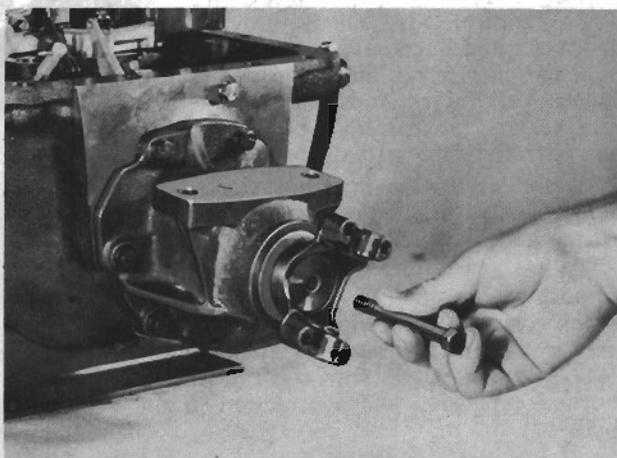
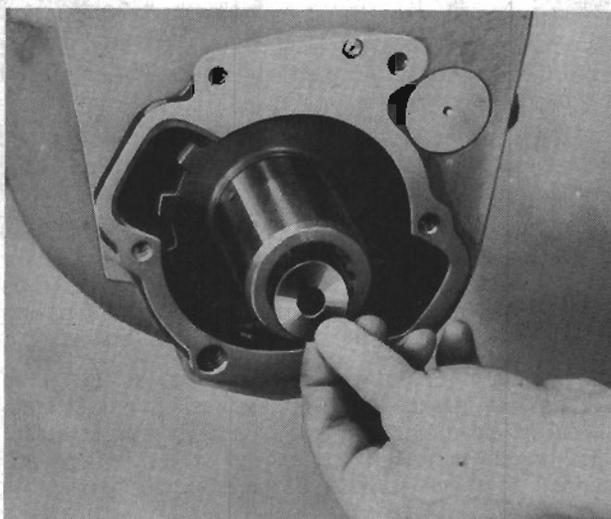
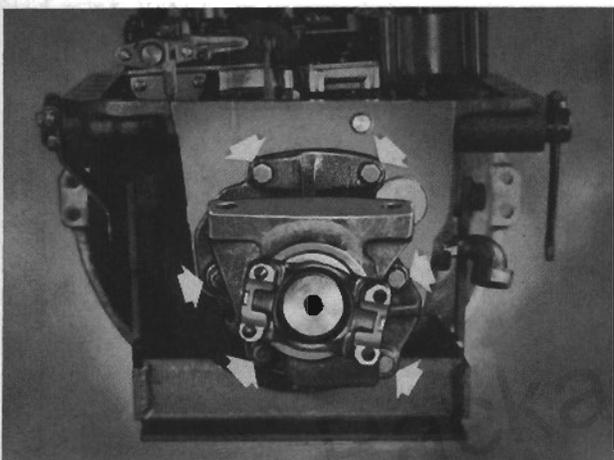

FIG. 290
FIG. 292
FIG. 291
output shaft to the transmission case and remove the companion flange cap screw (see Fig. 290). Remove the six (6) cap screws and lock washers (indicated in Fig. 291) that attach the extension housing to the transmission case and remove the extension housing by sliding toward the rear of the transmission. Remove the extension housing spacer washer from the inside of the parking gear hub (see Fig. 292). Remove the extension housing gasket.